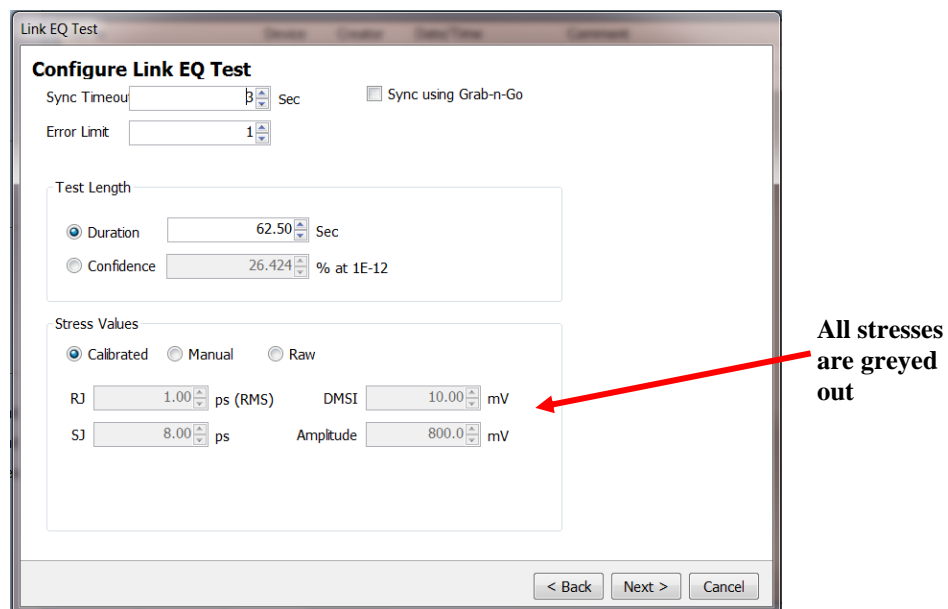

Figure-34: Configure Link EQ Test
11. Upon clicking 'Next', the 'Configure Link EQ Test' wizard is displayed as shown in Figure-34, in which all the stresses are greyed out and disabled for the TX EQ tests
12. Upon clicking 'Next', the 'Configure Link EQ Test' wizard is displayed as shown in Figure-34, in which all the stresses are greyed out and disabled for the TX EQ tests